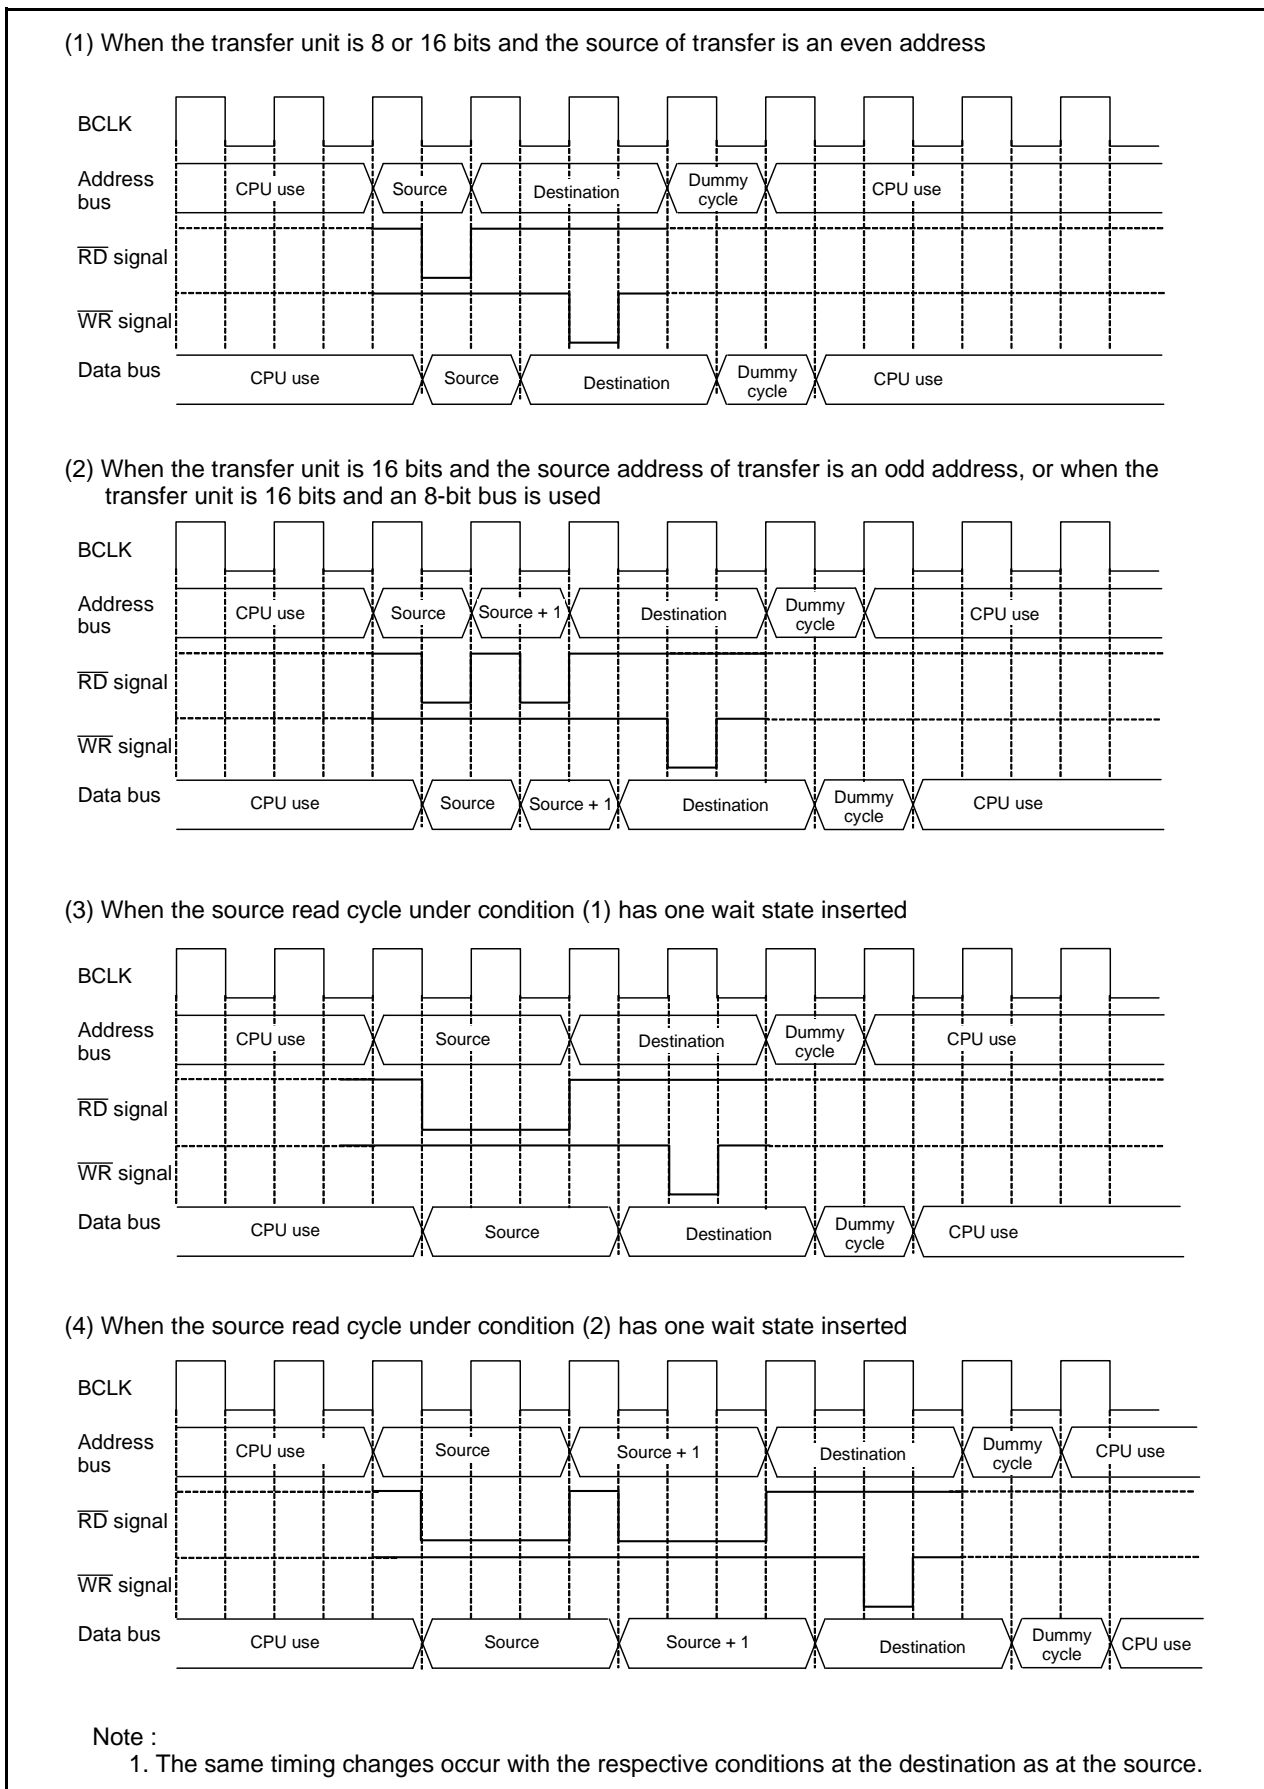

Figure 14.5 Transfer Cycles for Source Read
Figure 14.5 shows the example of the Transfer Cycles for Source Read. For convenience, the destination write cycle is shown as one cycle and the source read cycles for the different conditions are shown. In reality, the destination write cycle is subject to the same conditions as the source read cycle, with the transfer cycle changing accordingly. When calculating transfer cycles, take into consideration each condition for the source read and the destination write cycle, respectively. For example, when data is transferred in 16 bit units using an 8-bit bus ((2) on Figure 14.5), two source read bus cycles and two destination write bus cycles are required.